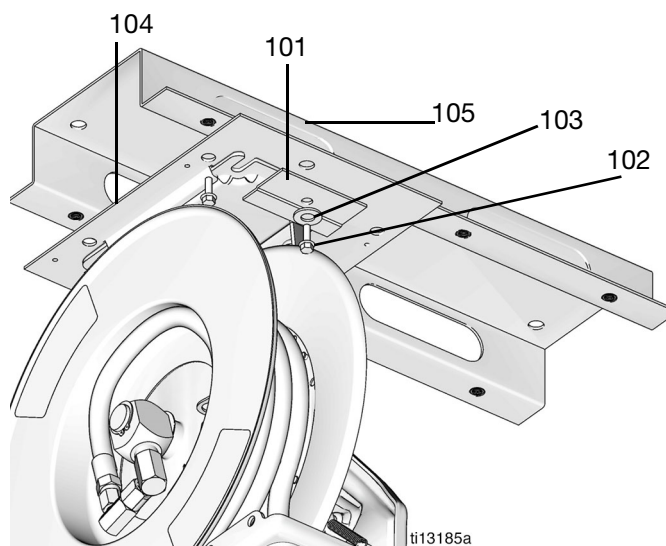

FIG. 11
- Install the mounting channel (105) and base plate (104) (SD Models), as shown in FIG. 11.
- Slide the hose reel into the base plate (104) and install the hold down plate (101), washer (103), and the cap screw (102). Tighten the screw firmly (FIG. 11).
3. SD Model Reels only: See FIG. 11, page 15. Slide the hose reel onto the base plate (104) then install the hold down plate (101), washer (103), and cap screw (102). Tighten the screw firmly.